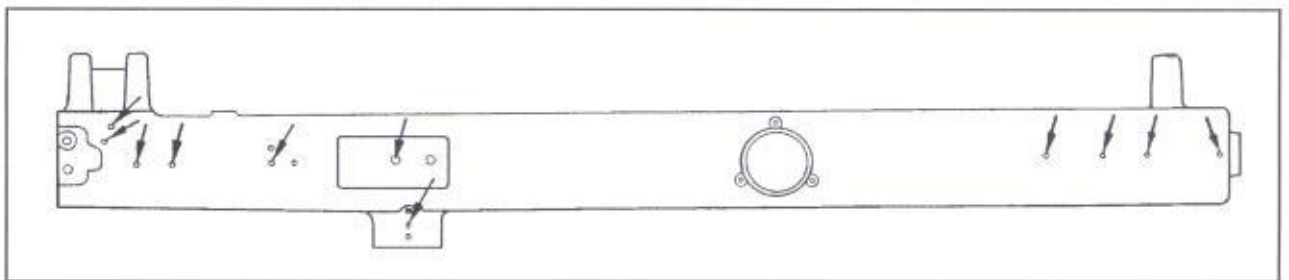
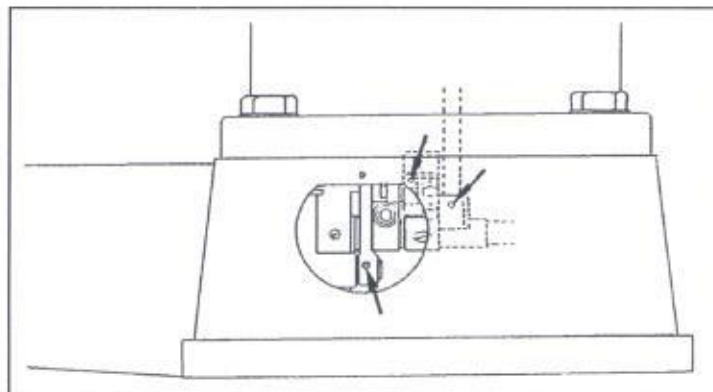

Fig.1.1
Fig.1.2
3) Lubrication (Fig.1.1、Fig.1.2)